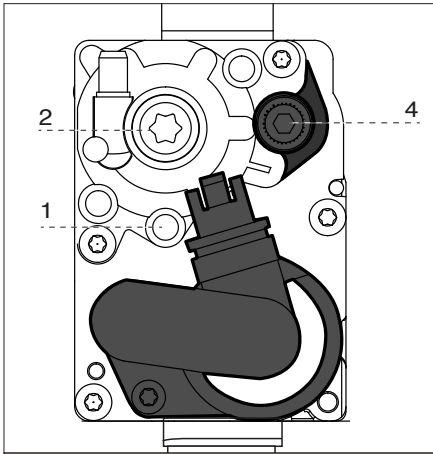

Figure 10 - Gas valve
The boiler gas valve is equipped with a Line Pressure Test Port; see Figure 10.
- b. Loosen screw **1 (Torx 10 - Line Pressure Test Port)**. This port is directly connected to the gas line feeding the boiler. See Figure 10.